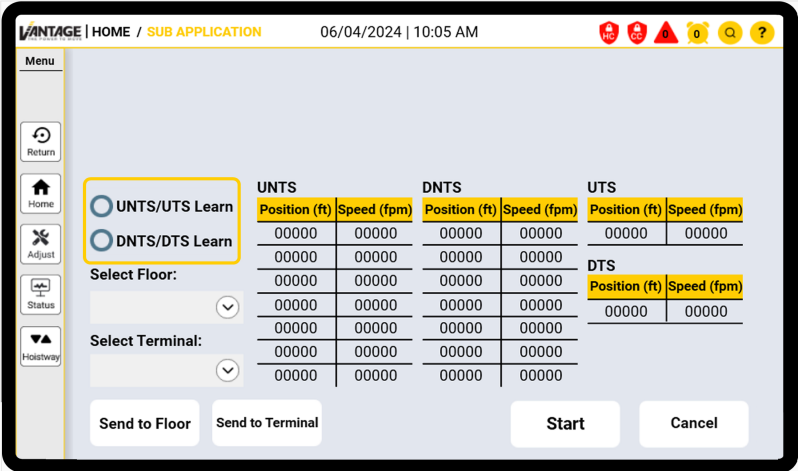

Figure 50: Select one of the highlighted options
5. Select UNTS/UETS or DNTS/DETS Learn by selecting one of the options shown in Figure 50 .